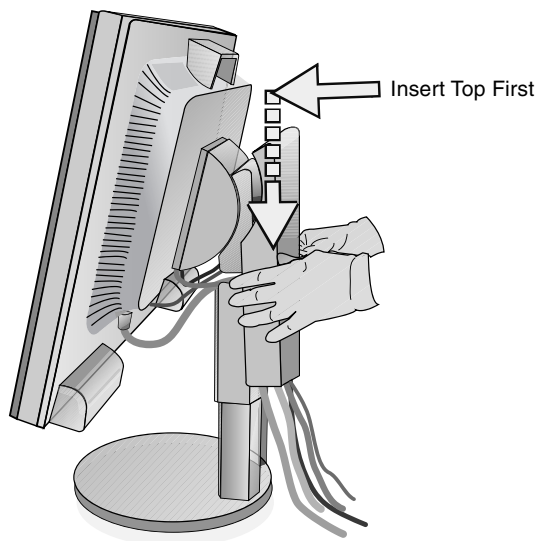
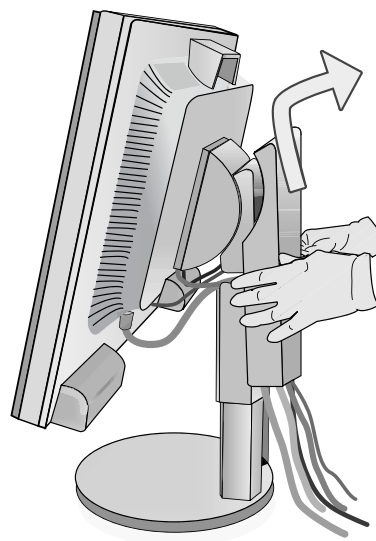

**Figure C.2**
**Figure C.3**
- To keep the cables neatly organized, place them into the cable management system that is built into the stand. Place the Power cord and DVI cables into the specific hooks, as indicated in **Figure C.2/Figure C.3**. Place the D-Sub and the USB cables into the specific hooks, as indicated in **Figure C.2/Figure C.3**.
- Make sure all cables are resting flat against the stand (**Figure C.2/Figure C.3**). Please check Tilt, Rise and Lower monitor screen and screen rotation when you manage cables.